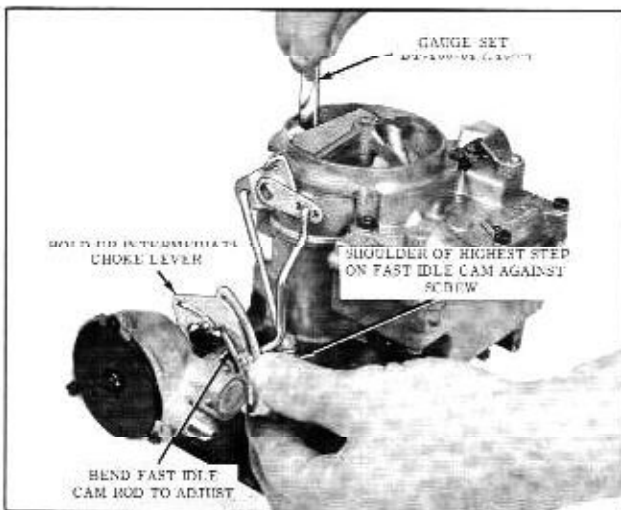

Fig. 8-114 Fast Idle Cam Rod Adjustment
2. While holding up on the intermediate choke lever so that the shoulder of the highest step of the fast idle cam is against the fast idle speed screw. Check the clearance between top edge of the choke valve and the air horn at the rear edge, using Gauge Set 100-31 (.150"). Make sure the intermediate choke rod is at the bottom of its slot in the intermediate lever. (Fig. 8-114)